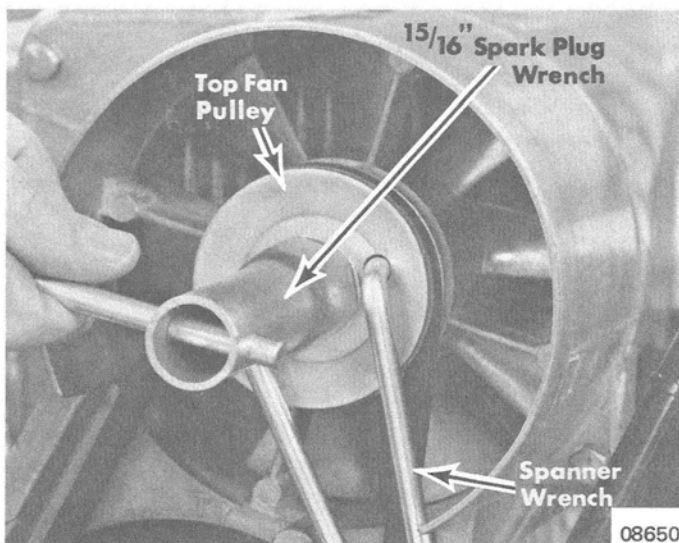

Figure 1. Fan Pulley Disassembly
4. Using spanner wrench (supplied with manufacturer's tool kit) and 15/16" wrench, remove top fan pulley retaining nut. (Figure 1)